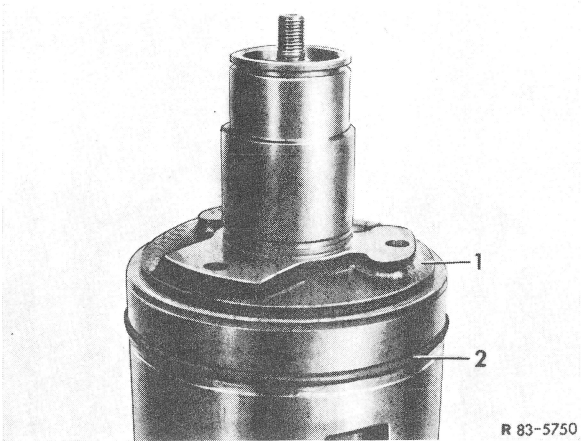

Figure 9
- 26** Apply refrigeration oil generously to chamfered groove of lower end of headpiece (1) and insert new sealing ring (2) into groove (Fig. 9).